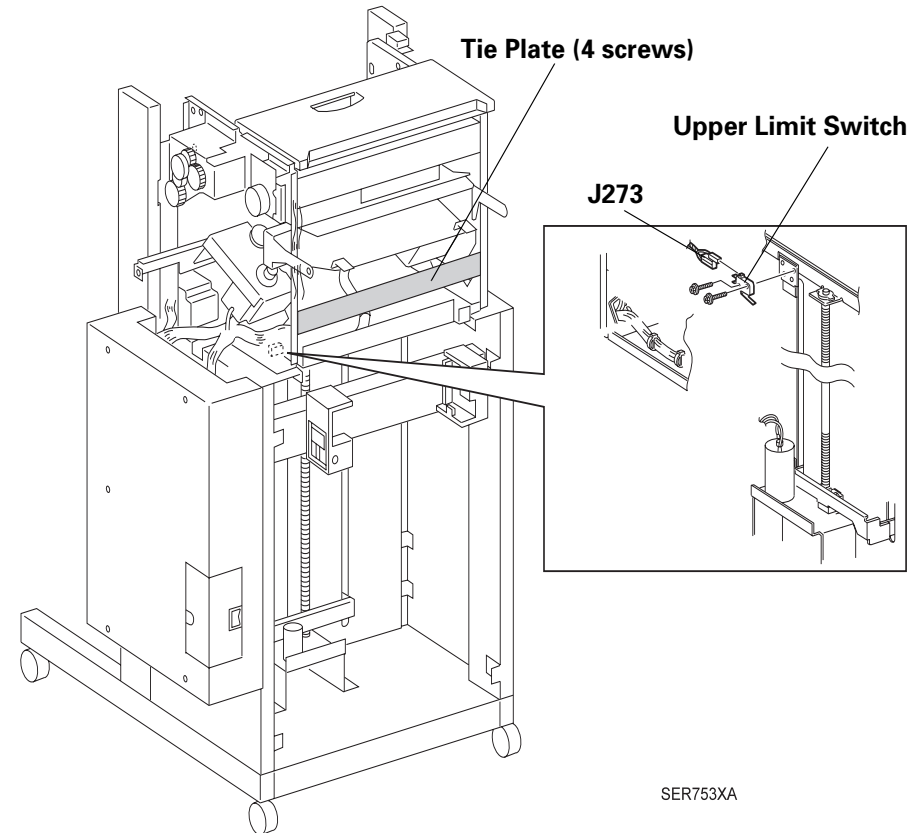

Figure 3-16. Stacker Upper Limit Switch
1. Place the Stacker Upper Limit Switch as shown in the Figure 3-16 and install the switch to the HCS frame.